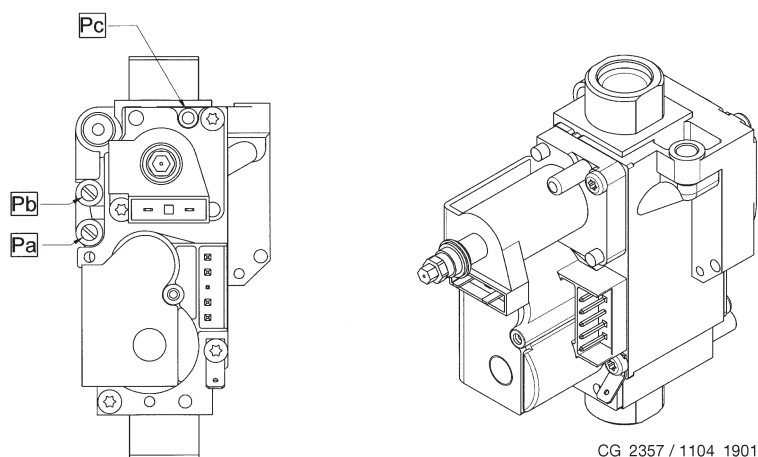

Figure 10
- connect the positive pressure test point of a differential pressure gauge (possibly water-operated) to the gas valve pressure test point (**Pb**) (Figure 10). Only for models with sealed chambers, connect the negative pressure test point of the pressure gauge to a "T" fitting in order to join the boiler adjustment outlet, the gas valve adjustment outlet (**Pc**) and the pressure gauge. (The same measurement can be made by connecting the pressure gauge to the pressure test point (**Pb**) after removing the front panel of the sealed chamber). Measuring burner pressure using methods other than those described could lead to incorrect results as the low pressure created by the fan in the sealed chamber would not be taken into account.
- make sure that the dynamic inlet pressure of the boiler, measured at the gas valve pressure test point (Pa) (Figure 10) is correct (37 mbar for propane or 20 mbar for natural gas).
e) adjust the “Pmax/Pmin” screw (figure 10) to set the burner pressure value as described in table 1.
To adjust pressure at maximum power, turn the “Pmax” screw (fig. 10) clockwise to increase or anti-clockwise to decrease pressure at the burner.
To adjust pressure at minimum power, turn the “Pmin” screw (fig. 10) clockwise to increase or anti-clockwise to decrease pressure at the burner.